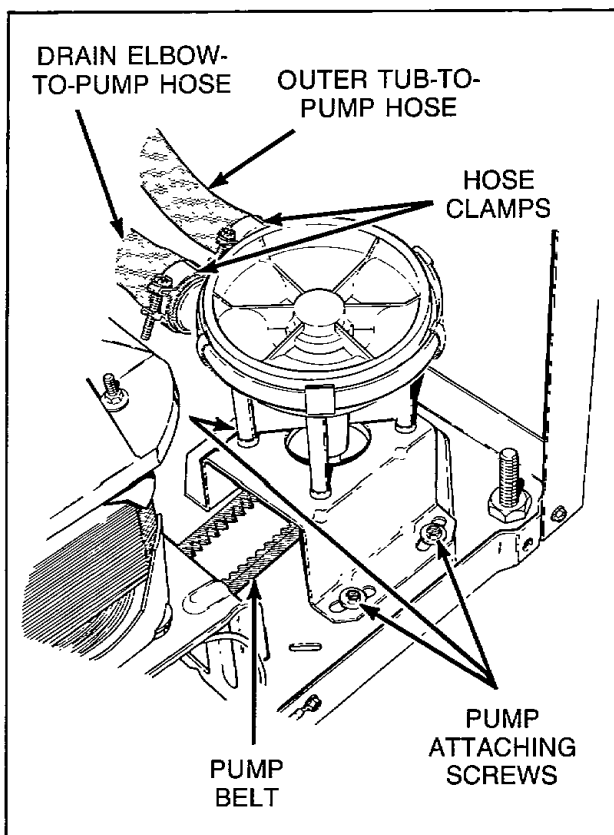

Figure 20
- b. Remove the two front pump attaching screws, *Figure 20*, and loosen the rear screw.
- e. Loosen hose clamps and remove hoses from pump assembly, *Figure 20*.